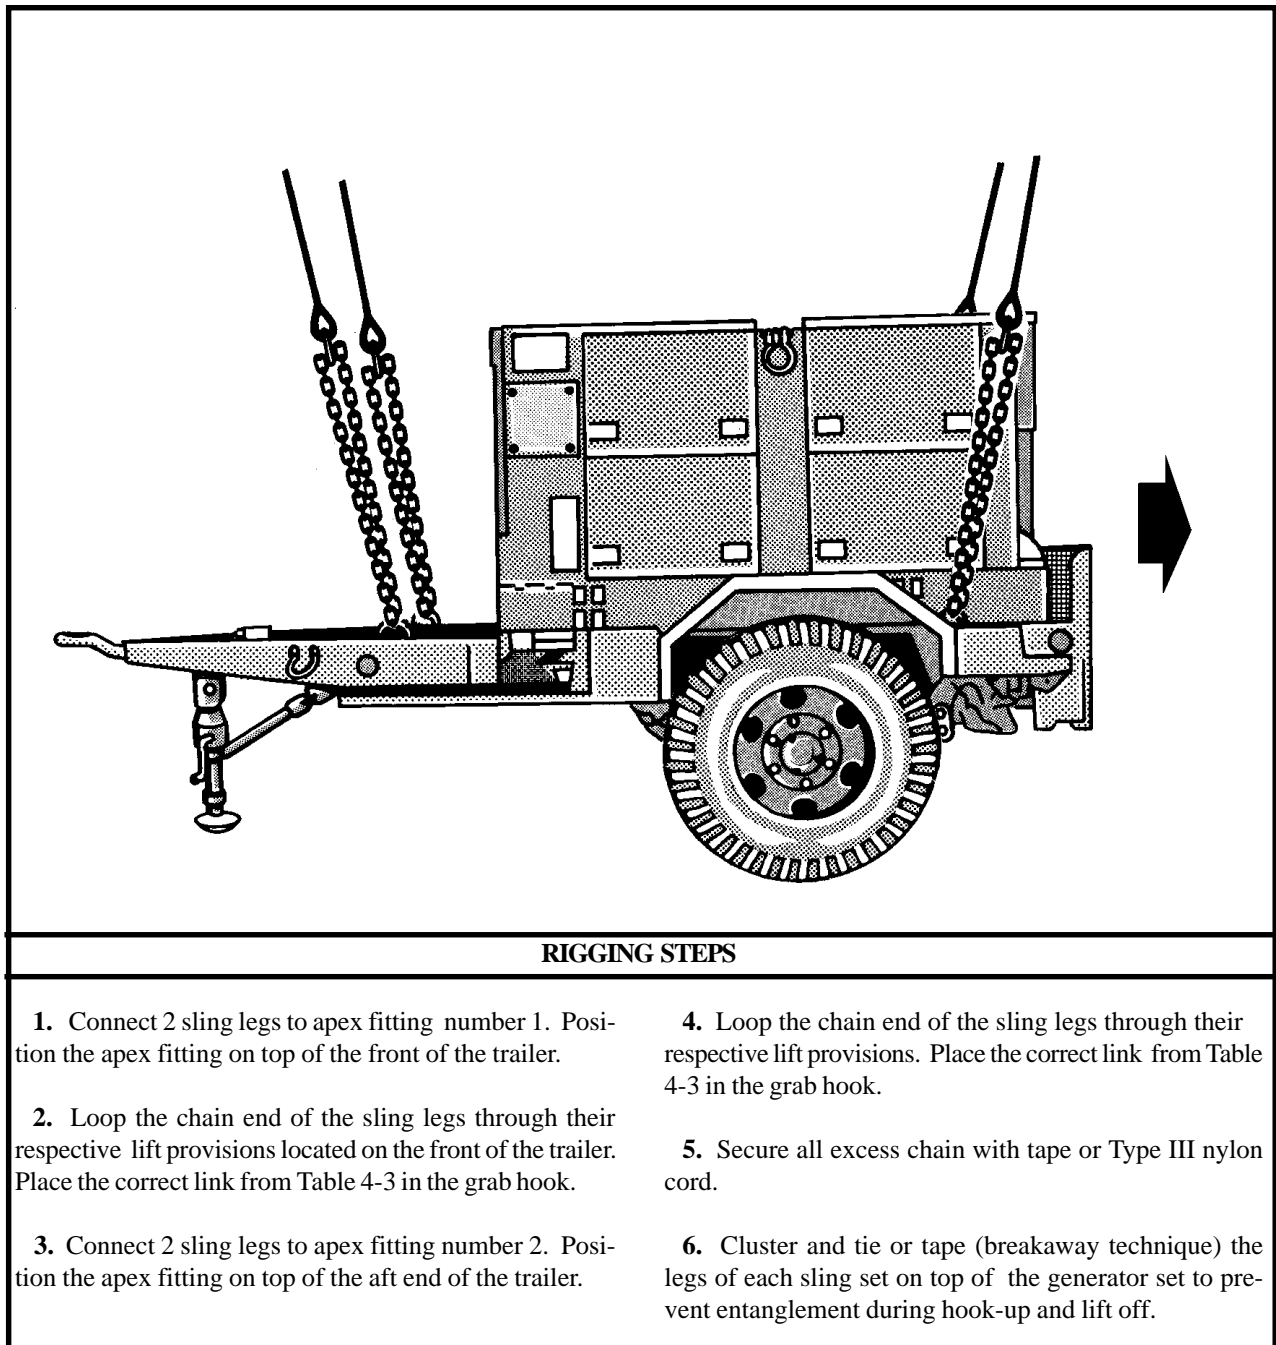

Figure 4-3. M200A1 Trailer-Mounted Power Units, Generators, and Power Plants
(2) **Rigging.** Rig the load according to the steps in Figure 4-3.
(4) **Derigging.** Derigging is the reverse of the preparation and rigging procedures in steps d (1) and d (2).